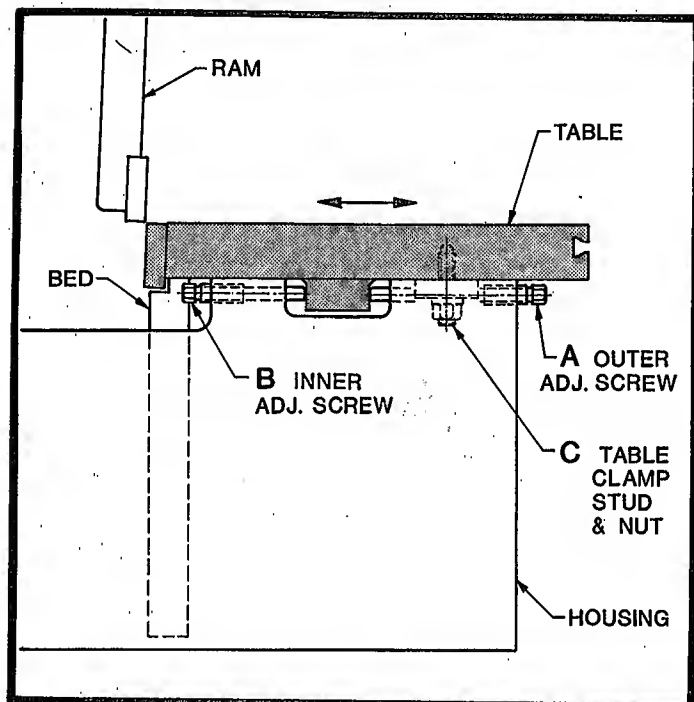

FIGURE 66
- B. If the knives have been changed or rotated to a sharp cutting edge proceed to the following instructions - refer to Figure 66.
5. Move the table forward (toward rear of machine) by loosening screw "B" and tightening screw "A" - See Figure 66. Adjust until the "GO" feeler gage (Figure 67) will go between the knives and the "NO GO" feeler gage will not. Both screws must be contacting the table.
6. Jog or move the ram on the upstroke until knives just cross at the low end of the ram. Set clearance the same as other end (Step 5). Securely tighten nuts "C" (Figure 66), which fasten table to the bed and housings.
Loosen nut "C" (Figure 66) and repeat Steps 4 through 7. Reduce the thickness of "GO" and "NO GO" feeler gages (Figure 67) by .005" to obtain the recommended knife clearance.
11. Securely tighten all table clamp stud nuts "C" (Figure 66).